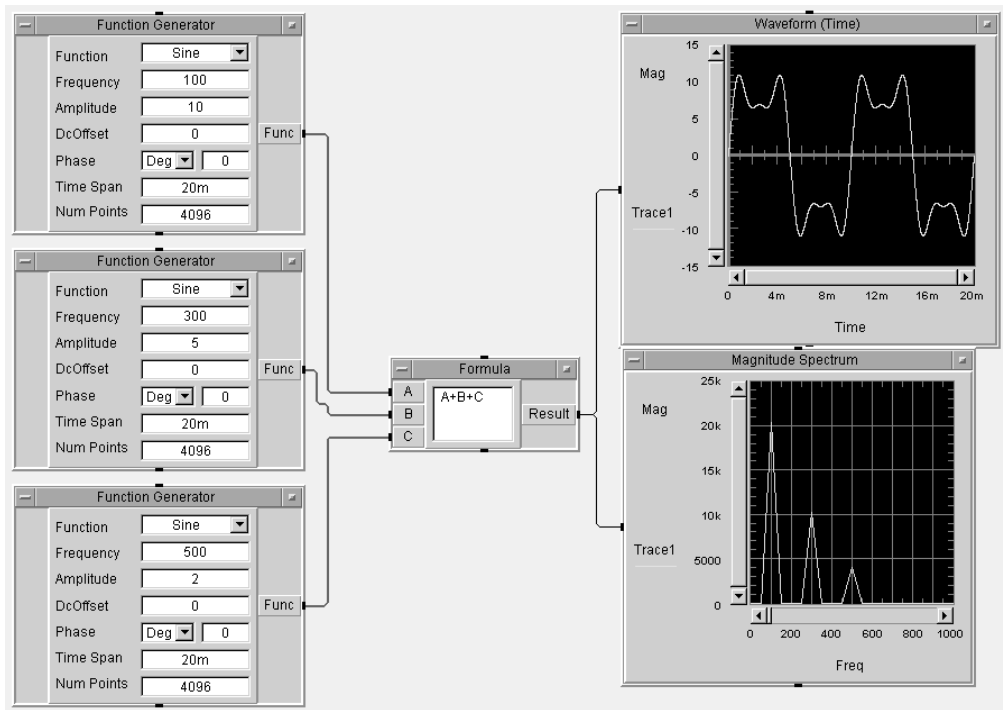

Figure 13.6. Spectra for three added sine-shaped waveforms
- 43. Run this program. See Figure 13.6.